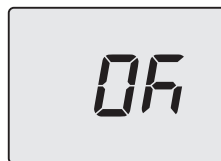

Fig. 8.22
- Press button 14 (Fig. 8.17) to confirm the value entered. The display will show the following (Fig. 8.22) for 5 seconds, then move up to the next level.